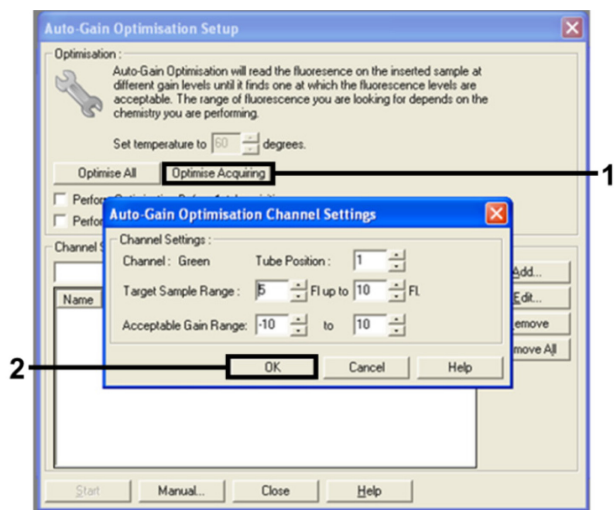

Figure 11. Auto-gain optimization for the Green channel.
13. Click “Optimise Acquiring.” Channel settings are displayed for each channel. Accept these default values by clicking “OK” for both channels (Figure 11).